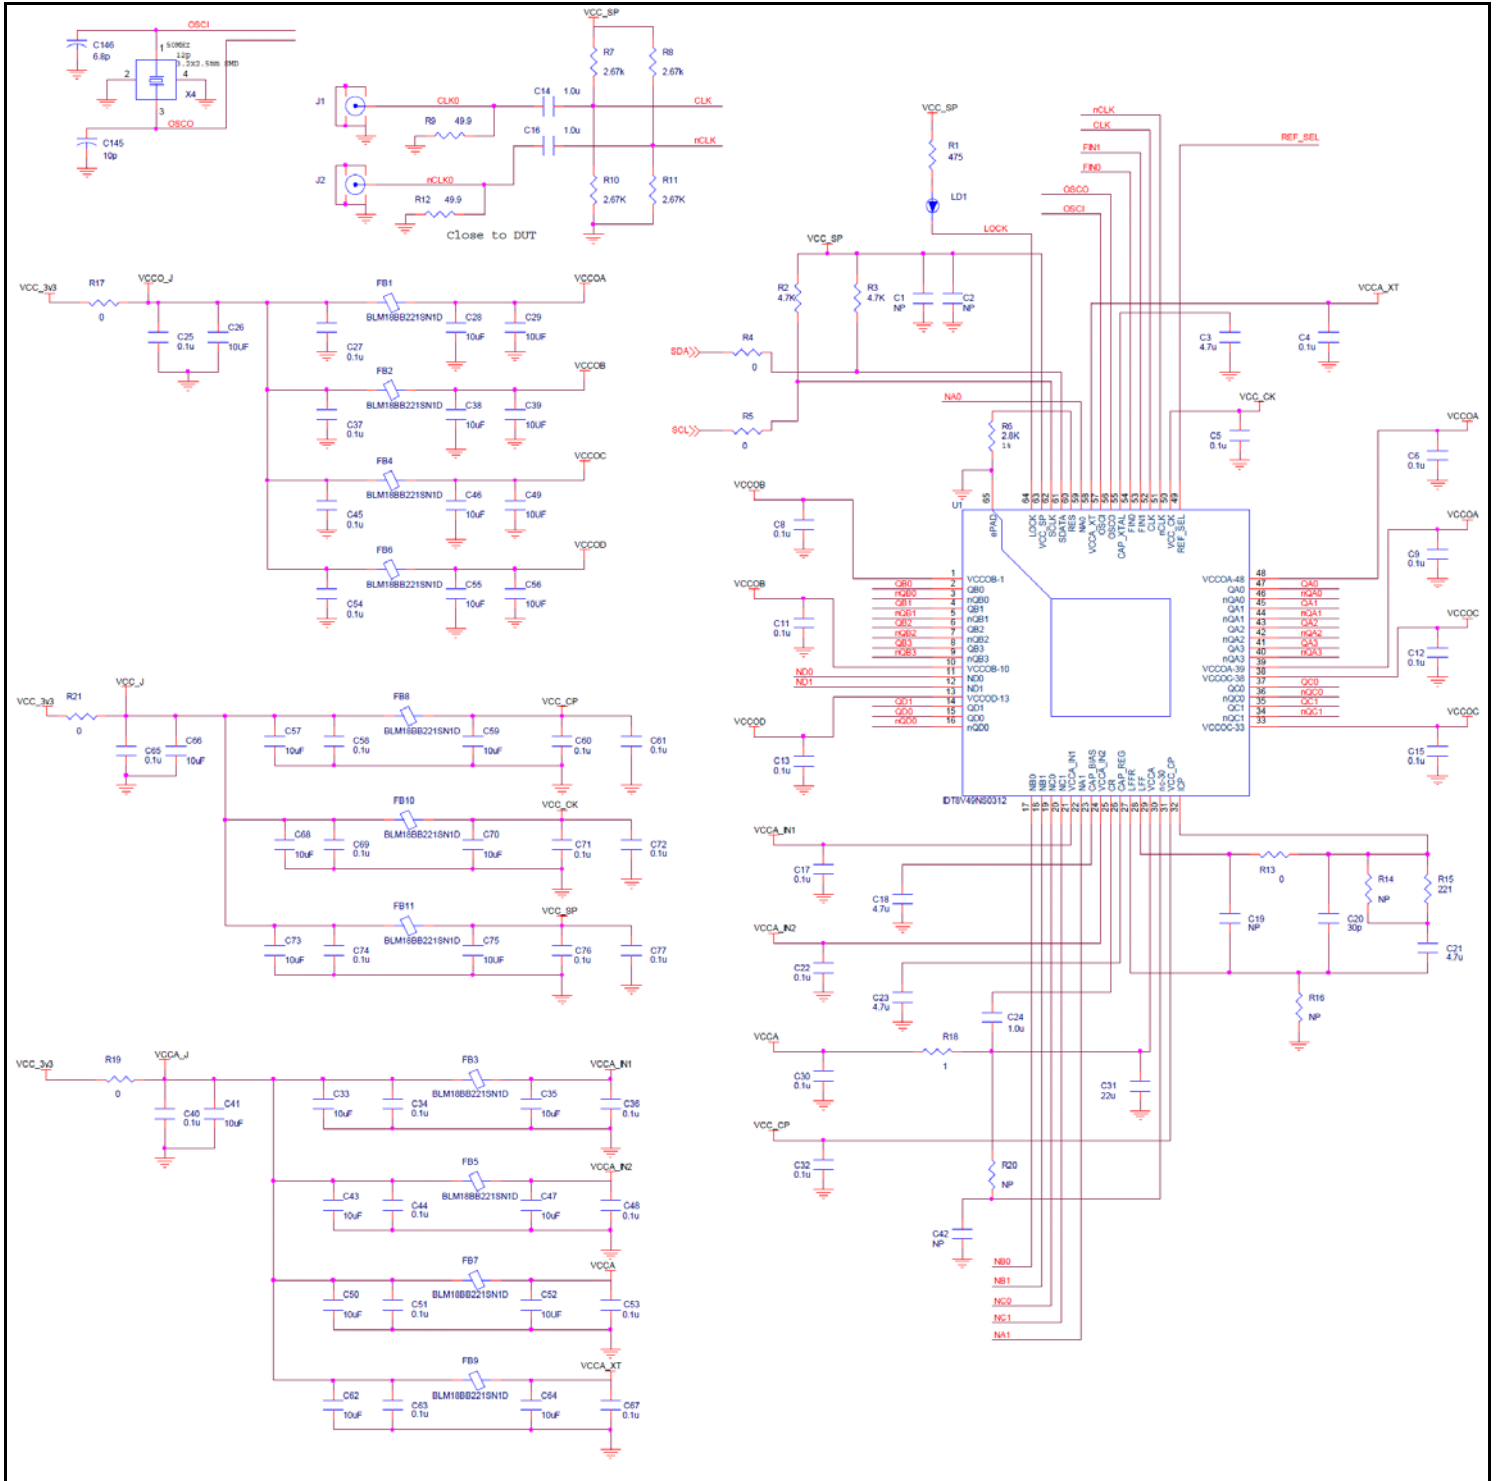

Figure 19: 8V49NS0312 Application Schematic
*Figure 19* shows an example 8V49NS0312 application schematic operating the device at  $V_{CC} = 3.3V$ . This example focuses on functional connections and is not configuration specific. Refer to the pin description and functional tables in the datasheet to ensure that the logic control inputs are properly set for the application.